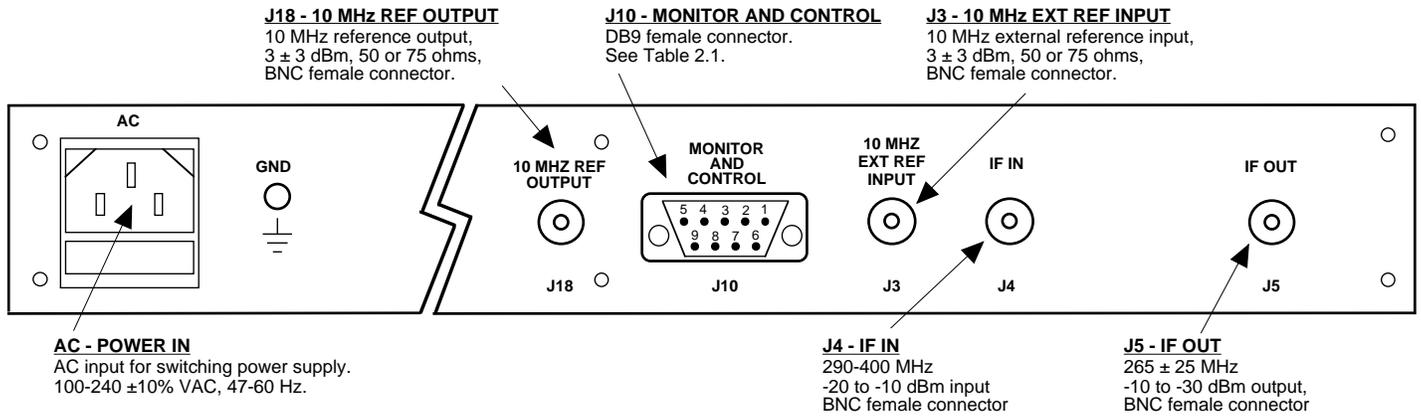

FIGURE 2.1 2083-43 Rear Panel I/O's
2.2 Rear Panel Input/Output Signals - Figure 2.1 shows the input and output connectors on the rear panel.
1. Connect a -20 dBm to -10 dBm signal to IF IN, J4 (Figure 2.1).